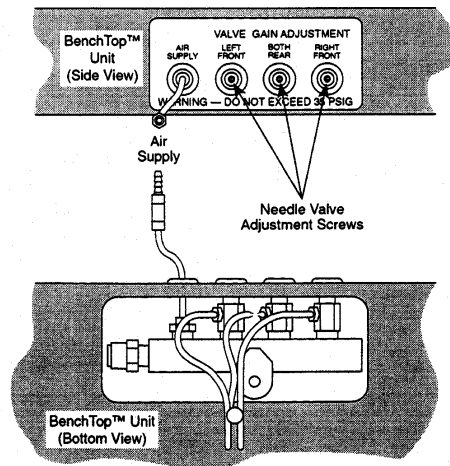

Figure 3
- If the BenchTop oscillates quickly, reduce the supply air pressure. If it oscillates slowly the center of gravity of your payload may be too high. If changing these conditions does not stop the oscillation, close the valves all the way and then open the two front valves $\frac{1}{8}$ turn counterclockwise and the "Both Rear" valve $\frac{1}{8}$ turn counterclockwise (Figure 3). If the system still oscillates, close the valves incrementally until the oscillation stops.